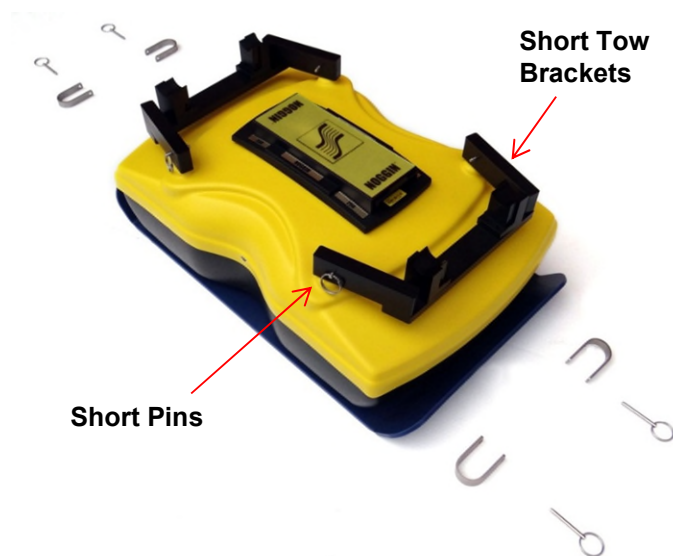

Figure 2-42: Connecting the SmartTow bracket
3. Attach the second **SmartTow Bracket** to the two back mounting posts on the Noggin (Figure 2-42).